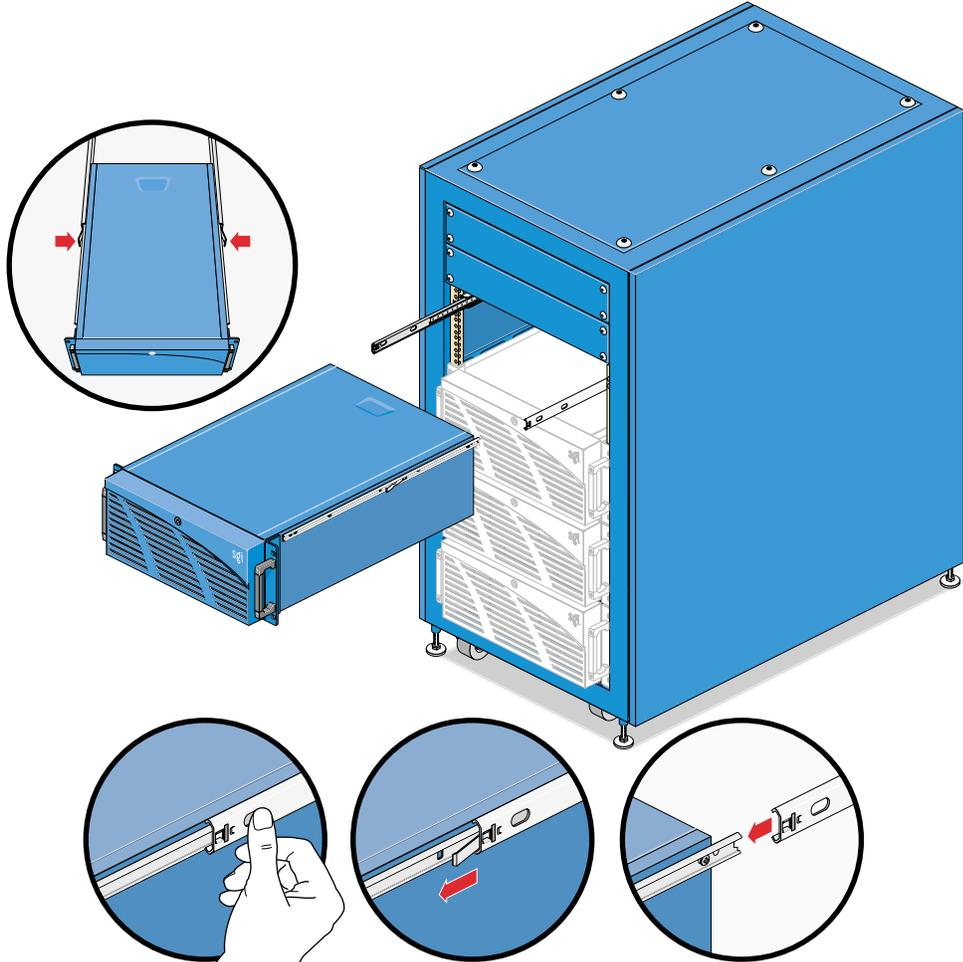

Figure 8 Slide-rail Locking Levers
Note: To push the node back into the system, push in the lever on each slide rail; refer to Figure 8 on page 8.
3. Using your thumbs, push in the locking lever on each rail and slide the node forward—off the rails. Refer to Figure 8. Place the node on the work surface.